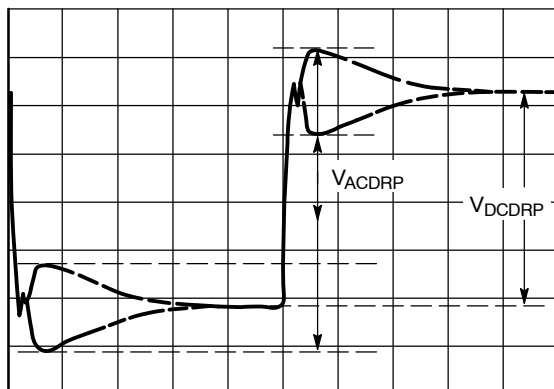

Figure 37. AC Load Line Waveform
- The resulting waveform will be similar to that shown in Figure 37. Use the horizontal cursors to measure V_{ACDRP} and V_{DCDRP} as shown in Figure 37. Do not measure the undershoot or overshoot that occurs immediately after the step.